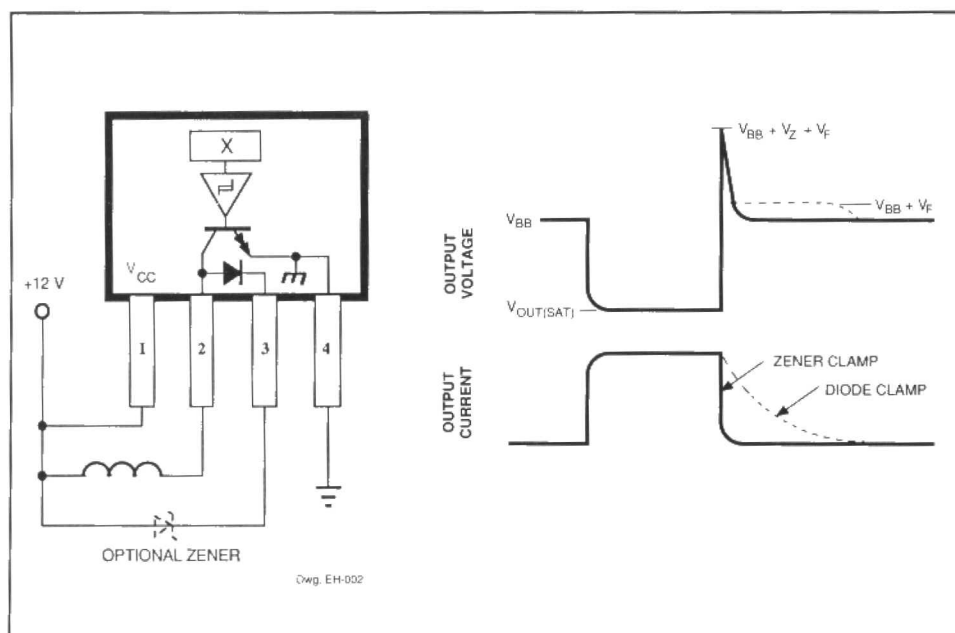

Fig. 9. Typical relay/solenoid driver application.
**Inductive load driver.** Connecting the internal clamp diode (pin 3) to the positive supply allows relays or other inductive loads to be driven directly, as shown in Fig. 9. The internal diode prevents damage to the output transistor by clamping the high-voltage spikes that occur when an inductive load is turned OFF. An optional external zener diode can be used to increase the flyback voltage, providing a much faster inductive load turn-OFF current decay, resulting in faster dropout (reduced relay contact arcing), and improved performance. The maximum zener voltage, plus the load supply voltage, plus the clamp diode forward voltage should not exceed 35 volts.